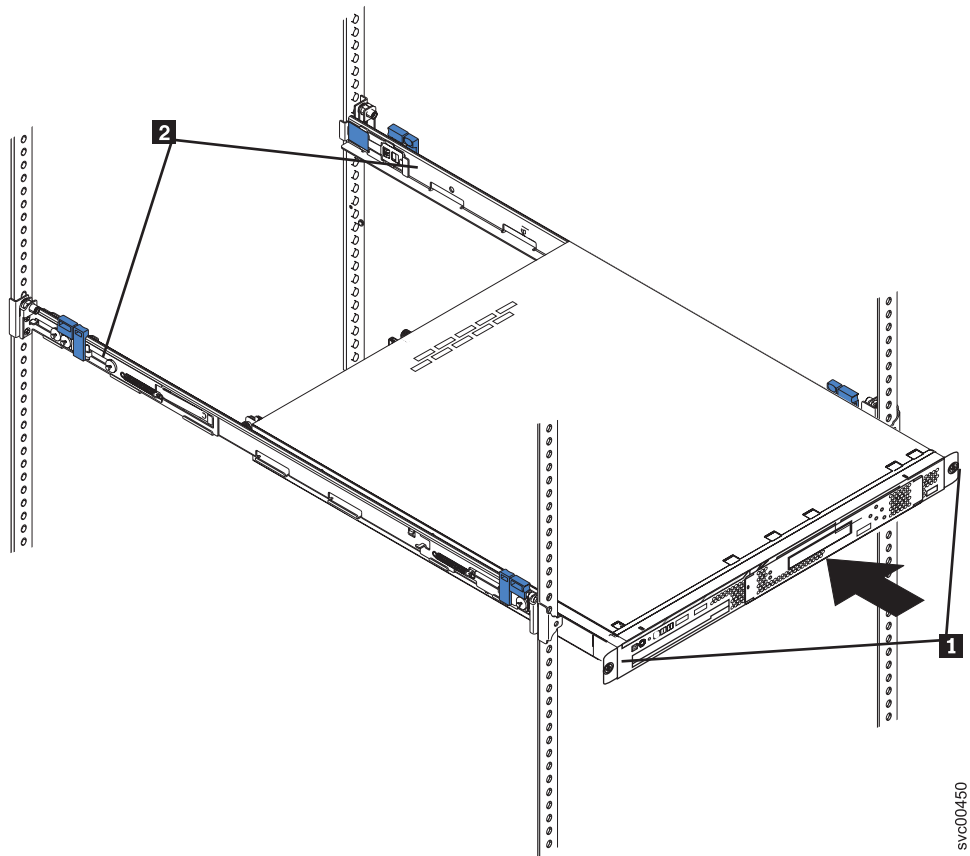

Figure 24. The captive thumbscrews that secure the node and the shipping brackets
1. Align the node on the slide rails and push the node fully into the rack. Secure the node to the front mounting flanges by tightening the captive thumbscrews **1** shown in Figure 24 on page 30.
- Secure the node to the front mounting flanges by tightening the captive thumbscrews **1** shown in Figure 24 on page 30.